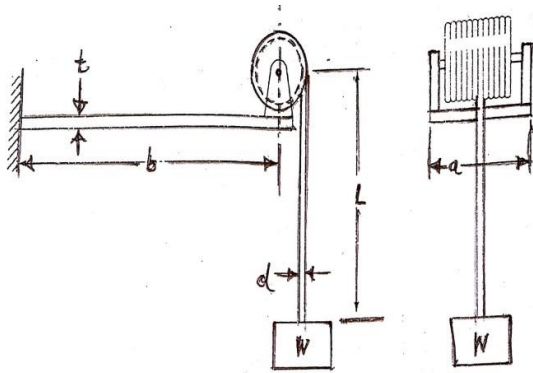

Figure : 1 (Que : 3(a))
- Q.3** (a) A hoisting drum, carrying a steel wire rope, is mounted at the end of a cantilever beam as shown in figure: 1. Determine the equivalent spring constant of the system when the suspended length of the wire rope is L . Assume that the net cross-sectional diameter of the wire rope is d and the Young's modulus of the beam and the wire rope is E . Spring constant of cantilever beam is $k_b=3EI/b^3$. **07**